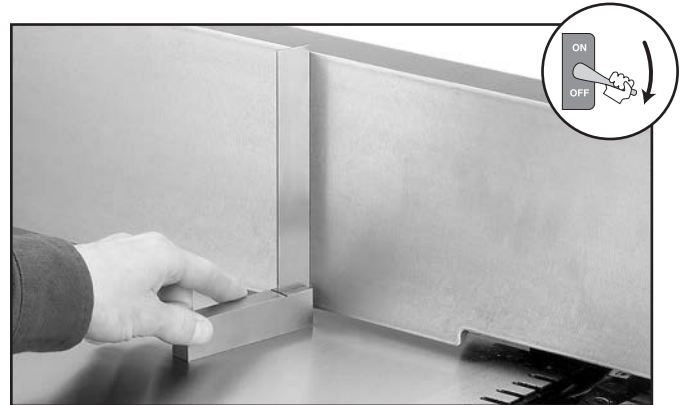

Figure 65. Setting the fence to 90° (cutterhead guard moved away for clarity).
3. Place the machinist's square flat on the outfeed table fairly close to the cutterhead, as shown in **Figure 65**, adjust the fence to the square, then tighten the fence tilt lock to secure the setting.